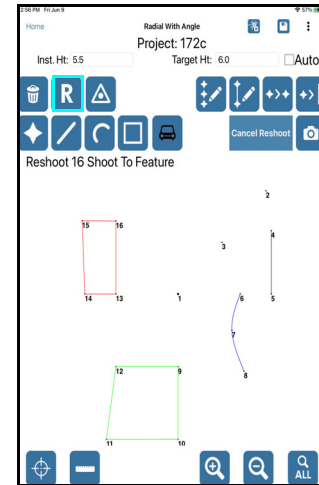

Figure 42
The Reshoot button  is located in the toolbar in the upper left area of the Data Collection screen (Figure 42) in all mapping methods. To re-shoot a point other than the last point measured, see Page 60.
1. Tap the Reshoot button  (Figure 42). Notice the Cancel Reshoot button has displayed, tap this button to abandon the operation at any time.